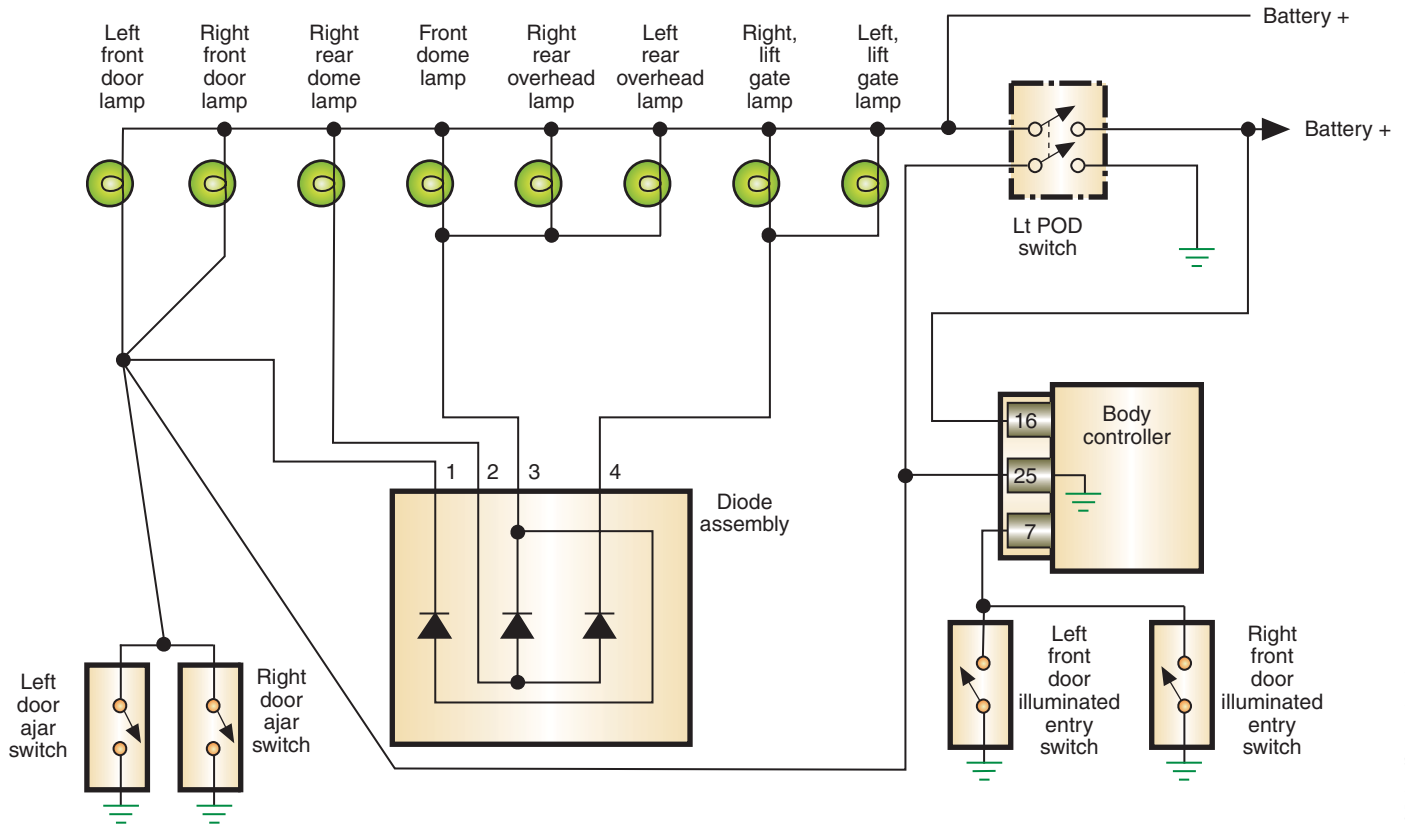

FIGURE 12-15 Schematic of an illuminated entry system.
This type of system has four main components (Figure 12-15). The door lock cylinder uses an LED to provide the illumination of the cylinder. The lens of the LED is built into the cylinder.
Follow these steps to diagnose the system illustrated in Figure 12-15:
6. With the ignition switch on, observe the scan tool display while lifting the door handle. The display should indicate the switch closed when the handle was lifted. If the switch operated correctly, go to step 7. If the display did not indicate proper switch operation, connect a jumper wire from the controller terminal identified in the service information to ground. This would be terminal 7 at the BCM in Figure 12-15. Observe the scan tool. If it indicates the circuit is closed, follow the service information procedure for testing the door switches. If the display indicates the circuit is open, replace the BCM.
Figure 12-15) to ground. If the lights do not turn on, there is an open circuit between the BCM and the lamps. If the lights turned on when the BCM was jumped, replace the BCM.